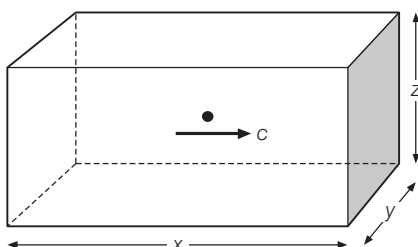

Figure 1.16 Our starting point for deriving a mathematical relationship between the motion of particles in a gas and the pressure they exert
Step 1: To start with, consider a single particle, mass m , travelling at velocity c in a box as shown in Figure 1.16. The particle collides elastically with the shaded wall and rebounds with a velocity $-c$. The change in the particle's momentum is $2mc$.